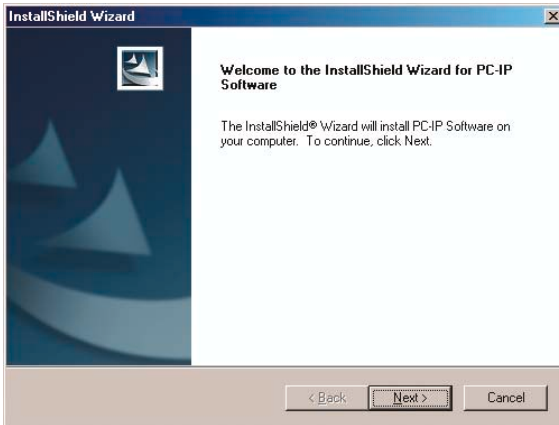

Figure 2-1
3. When the window for the CD-ROM files opens, click on the setup program, PC-IP setup.exe, and click Enter. A Welcome screen will be displayed (Figure 2-1). Click on Next to continue.